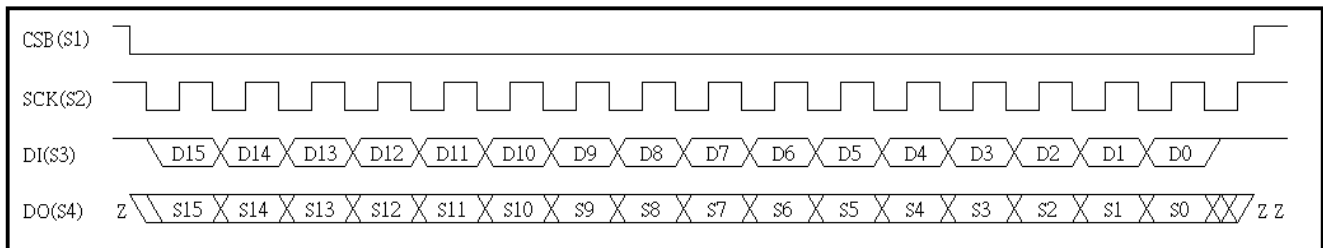

Fig. 19 SPI Data Output Command timing
- Command timing reference Fig. 19 SPI Data Output Command timing.